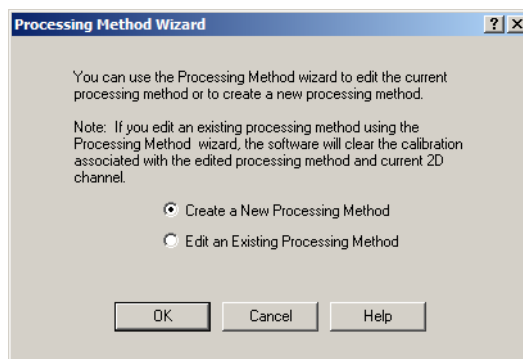

Figure 4-14 Processing Method Wizard Dialog Box
2. Click  (Processing Method Wizard) or select **File > New > Processing Method** to start the wizard and open the Processing Method Wizard dialog box (Figure 4-14).